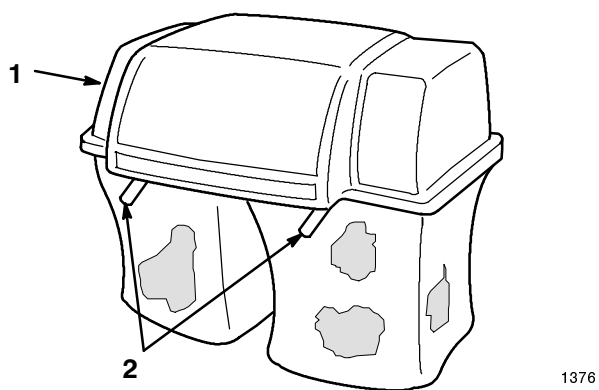

Figure 29
2. Raise the bagger top and remove the grass bags from the bag frame (Fig. 29).